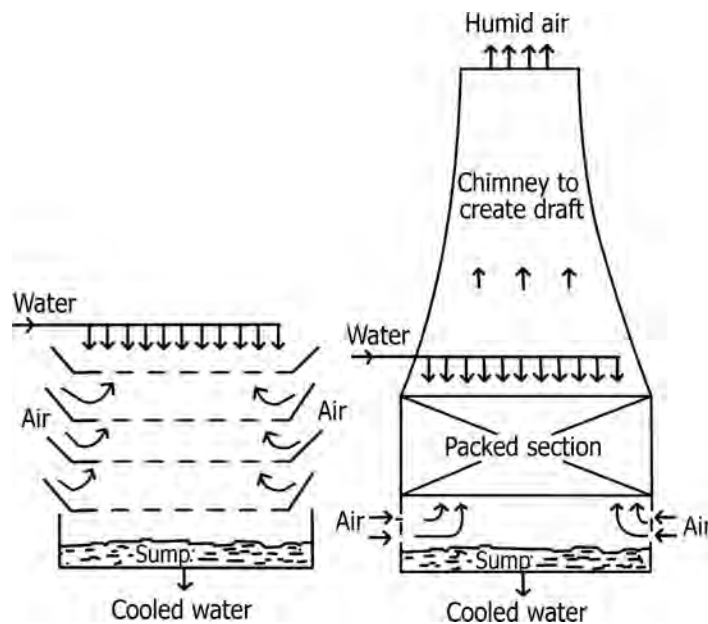

FIGURE 18.18 Atmospheric and natural draft cooling towers.
- Figure 18.18 illustrates the differences between atmospheric and natural draft cooling towers.